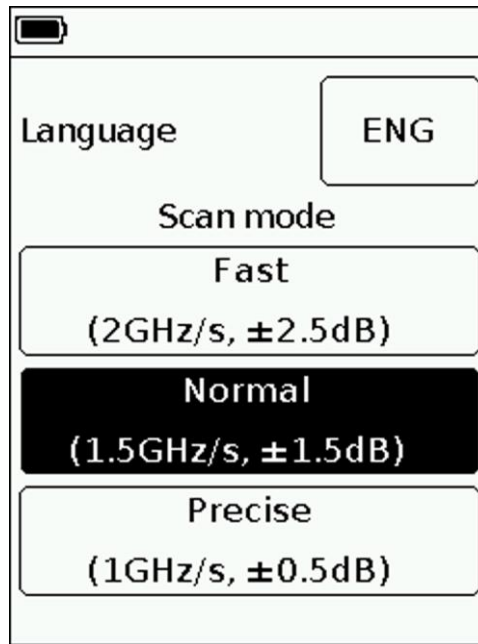

Figure 8.2.1 - Settings menu
8.2.1. Enter the main menu of the device and select the «**Settings**» section. The settings menu will be displayed on the screen, as in Figure 8.2.1.